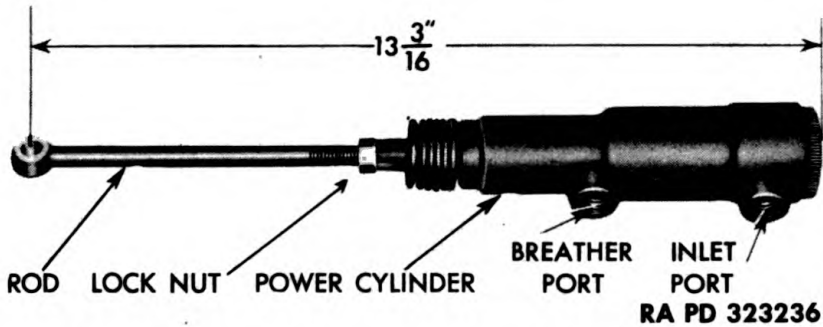

Figure 241 — Electric Brake Controller Power Cylinder
a. **Description** (figs. 241 and 242). The power cylinder consists of a one-piece body casting with a head screwed into one end and a bushing pressed into the other. A mounting eye bolt screws into the head, and is secured by a lock nut. Inside the cylinder are the piston and rod assembly and a return spring. The piston rod extends out through the bushing. A rubber boot is used to prevent foreign matter from entering between the piston rod and bushing. In the side of the cylinder body are an inlet and a breather port; both are threaded for hose fittings.